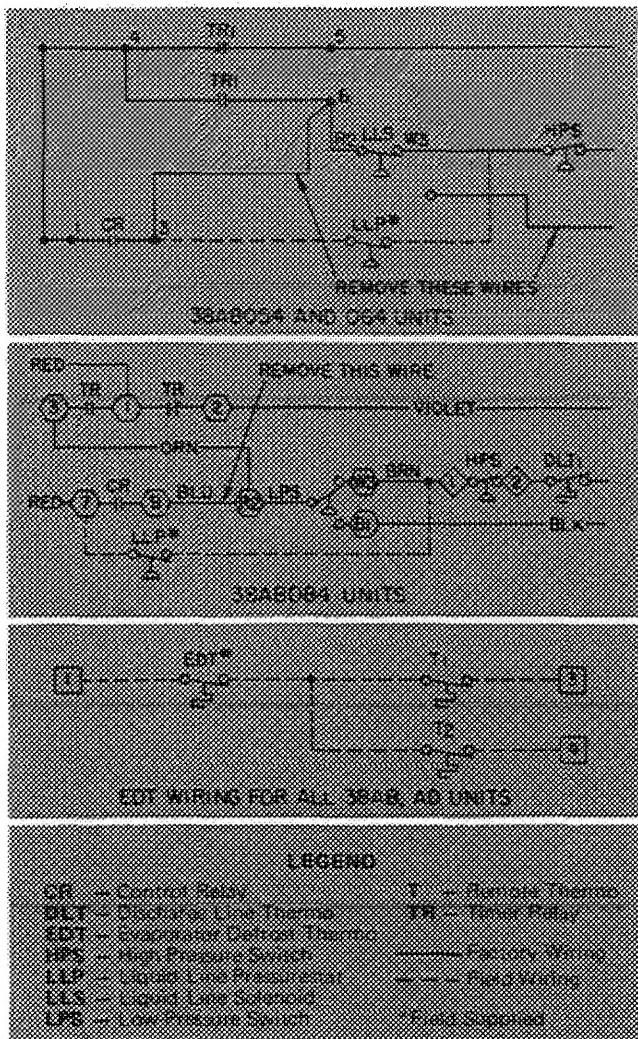

Fig. 15 – Unit Wiring Changes for
allow unit to start under low-ambient conditions. An evaporator freezestat must also be installed in series with the control thermostat(s) to prevent coil freeze-up (See lower part of Fig 15 – EDT Wiring section.)
**LIQUID LINE PRESSURESTAT** – Connect to system liquid line service valve port. Connect switch into control circuit as shown on unit label diagram or in Fig. 15. Pressurestat is set to cutout at 5 psig with a differential of 10 psig. *Do not change setting*